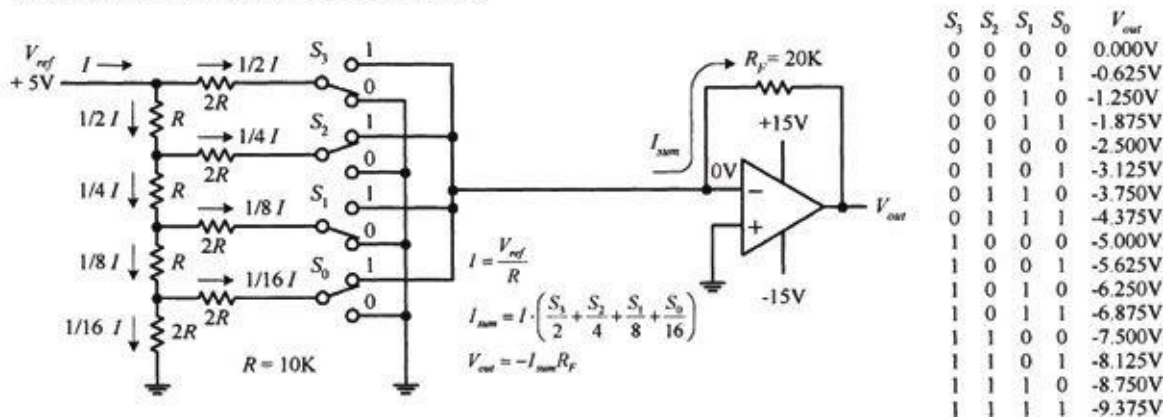
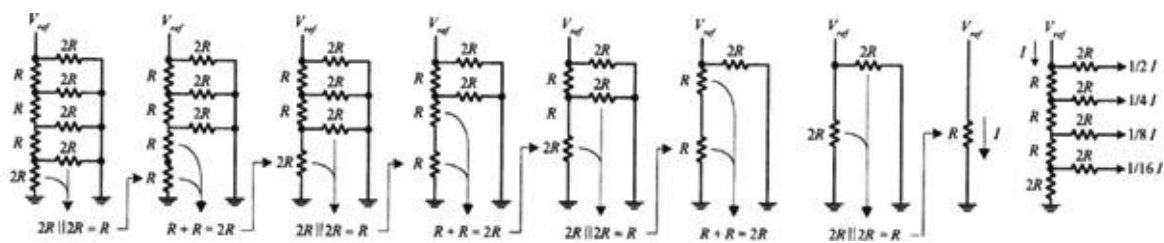

FIGURE 12.142
FIGURE 12.143
An $R/2R$ DAC uses an $R/2R$ resistor ladder network instead of a scaled-resistor network, as was the case in the previous DAC. The benefit of using the $R/2R$ ladder is that we need only two resistor values: R and $2R$. Figure 12.142 shows a simple 4-bit $R/2R$ DAC. For now, assume that the switches are digitally controlled (in real DACs, they are replaced with transistors).
The trick to understanding how the R/2R ladder works is realizing that the current drawn through any one switch is always the same, no matter if it is thrown up or down. If a switch is thrown down, current will flow through the switch into ground (0 V). If a switch is thrown up, current will flow toward virtual ground—located at the op amp’s inverting input (recall that if the noninverting input of an op amp is set to 0 V, the op amp will make the inverting input 0 V, via negative feedback). Once you realize that the current through any given switch is always constant, you can figure out what fractions of the total current pass through each of the branches within the R/2R network using simple circuit analysis. Figure 12.142 shows that 1/2 I passes through S₃ (MSB switch), 1/4 I through S₂, 1/8 I through S₁ and 1/16 I through S₀ (LSB switch). If you’re interested in how that was figured out, the circuit reduction shown in Fig. 12.143 should help.
Now that we have a means of consistently generating fractions of 1/2 I, 1/4 I, 1/8 I, and 1/16 I, we can choose, via the digital input switches, which fractions are summed together by the amplifier. For example, if switches S₃, S₂, S₁, and S₀ are thrown to 0101 (5), 1/4 I + 1/16 I combine to form I_{sum}. But what is I? Using Ohm’s law, it’s just I = V_{ref} / R = +5 V / 10 kΩ = 500 μA. This means that I_{sum} = 1/4(500 μA) + 1/16(500 μA) = 156.25 μA. The final output voltage is determined by V_{out} = -I_{sum} R_F = - (156.25 μA) (20 kΩ) = -3.125 V. The formulas and the table in Fig. 12.142 show the other possible binary/analog combinations.